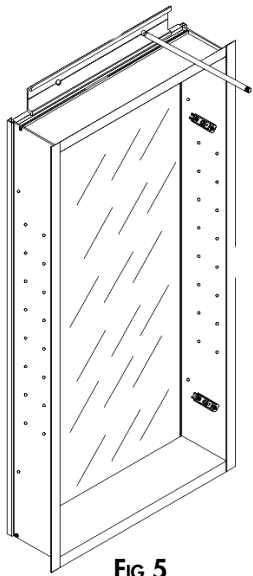

FIG 5
2. With bottom cabinet sitting securely on bottom mounting bracket, insert Links Wall Bracket included in this kit in top channel. (Fig 5)